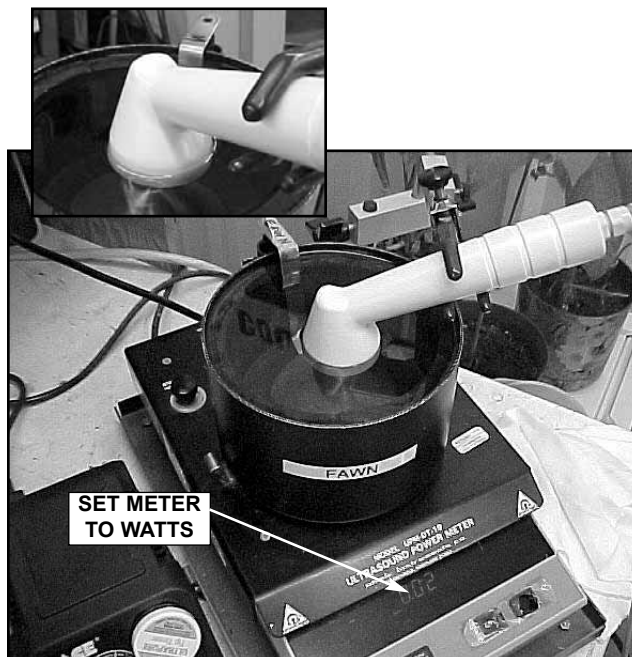

FIGURE 8.1
5. Place the Ultrasound Applicator being calibrated into the Ohmic Instruments UPM DT 10 Ultrasound Power Meter and set meter to “watts”. See Figure 8.1.